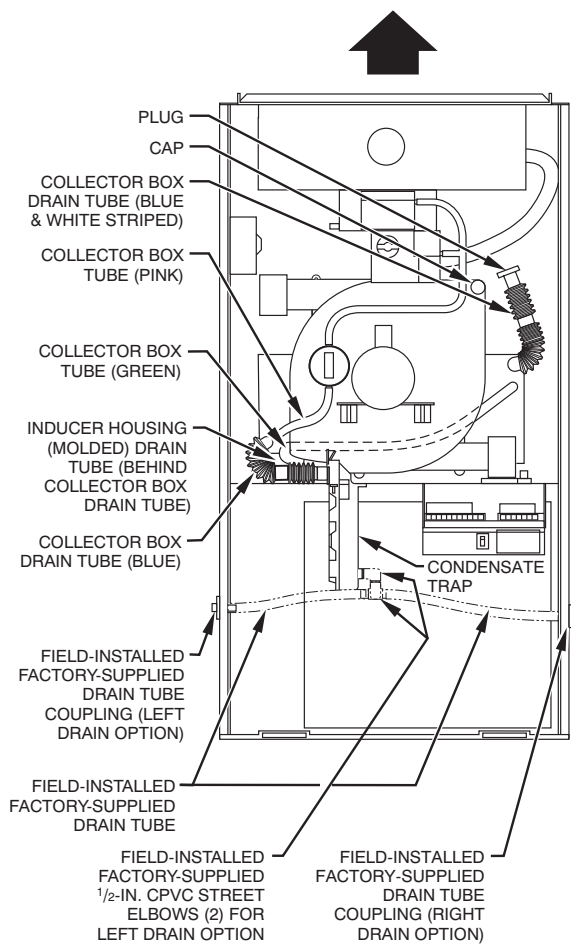

Fig. 6 - Factory-Shipped Upflow Tube Configuration (Shown with Blower Access Panel Removed)
Some assembly and modifications are required for furnaces installed in any of the 4 applications shown in Fig. 1. All drain and pressure tubes are connected as shown in Fig. 6. See appropriate application instructions for these procedures.
NOTE: See Fig. 6 or tube routing label on main furnace door to confirm location of these tubes.
- j. Cement 2 factory-supplied 1/2-in. (13 mm) street CPVC elbows to the rigid drain tube connection on the condensate trap. (See Fig. 6.) These elbows must be cemented together and cemented to condensate trap drain connection.
NOTE: See Fig. 6 or 7 or tube routing label on main furnace door to check for proper connections.